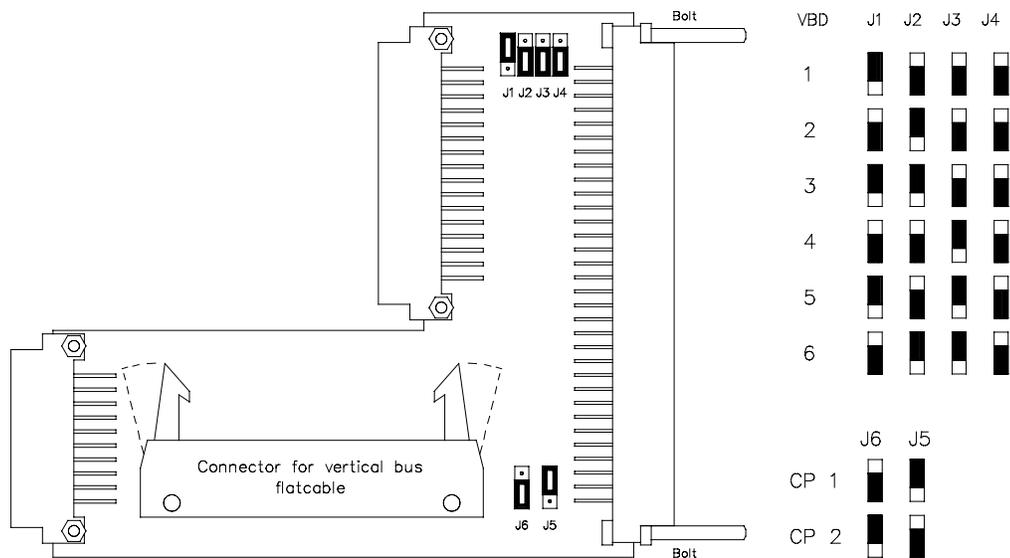

Figure 3 Jumper setting on 10001/A/1 module for CP 1, VBD 1
Jumpers J1 to J4 on the wiring part (10001/A/1) are used to set the VBD number (see Figure 3).
Jumpers J5 and J6 on the wiring part (10001/A/1) are used to set the Central Part (CP) number (see Figure 3).